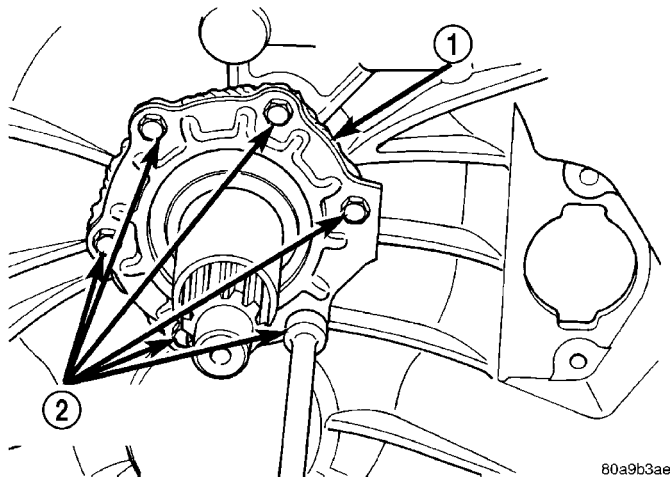

Fig. 127 BEARING RETAINER BOLTS
(22) Install and tighten bearing retainer bolts to 7-10 N·m (5-7 ft. lbs.) (Fig. 127).